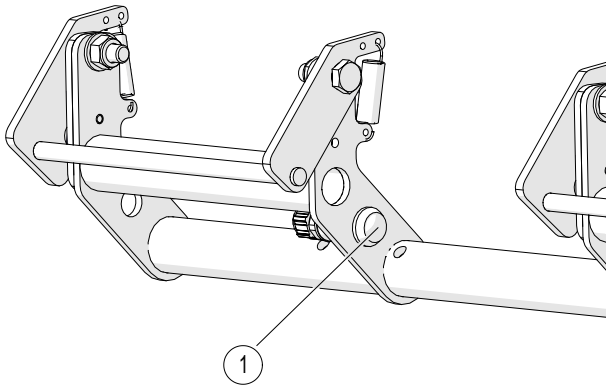

Fig. 33: Button at the Push Handle
Shortly before an expansion unit has reached, the button (1) must be pressed (see Fig. 33). The button (1) must be released, if the expansion has been passing through. Pressing the button (1) will prevent the disc from getting caught in the gap of the expansion joint.